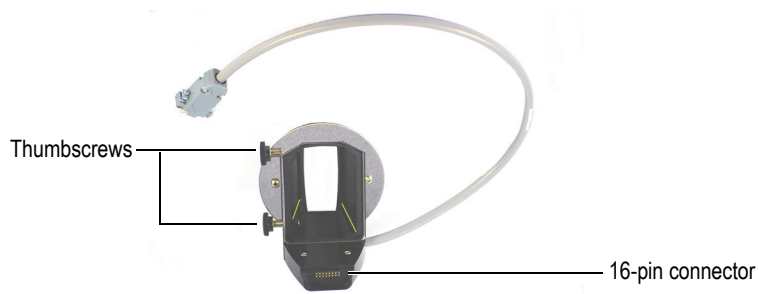

Figure F-10 Probe adaptor
2. Connect the DELTA analyzer to the probe adaptor's 16-pin connector (see Figure F-10 on page 171).